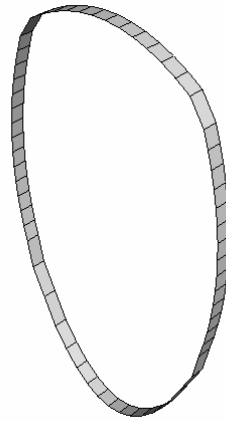

Figure W-8 Extruded part.
Abaqus/CAE displays an isometric view of the new part, as shown in Figure W-8. The **Parts** icon in the Model Tree changes to indicate that the model contains one part,  Parts (1).